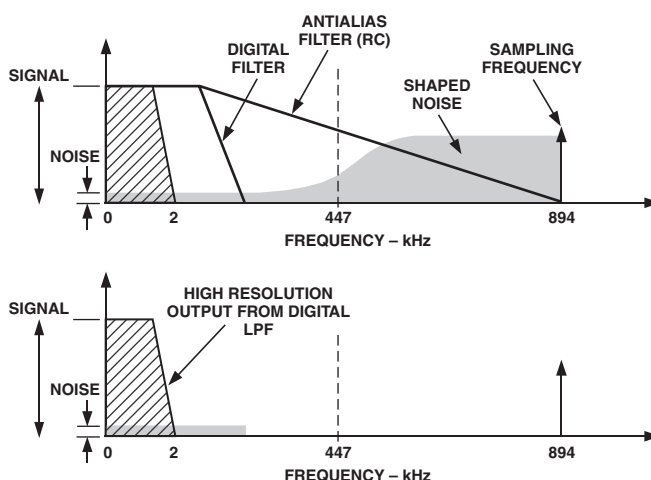
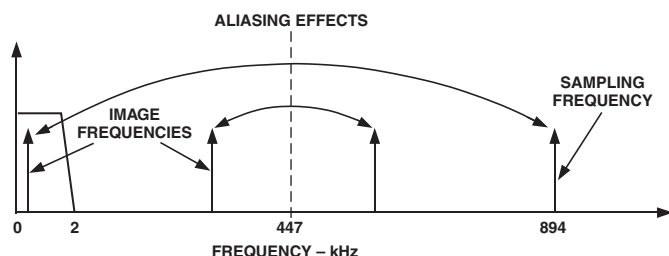

Figure 20. Noise Reduction Due to Oversampling and Noise Shaping in the Analog Modulator
Figure 21. ADC and Signal Processing in Channel 1
than the bandwidth of interest. For example, the sampling rate in the ADE7759 is CLKIN/4 (894 kHz) and the band of interest is 40 Hz to 2 kHz. Oversampling has the effect of spreading the quantization noise (noise due to sampling) over a wider bandwidth. With the noise spread more thinly over a wider bandwidth, the quantization noise in the band of interest is lowered—see Figure 20. However, oversampling alone is not an efficient enough method to improve the signal to noise ratio (SNR) in the band of interest. For example, an oversampling ratio of 4 is required just to increase the SNR by only 6 dB (one bit). To keep the oversampling ratio at a reasonable level, it is possible to shape the quantization noise so that the majority of the noise lies at the higher frequencies. This is what happens in the sigma-delta modulator: the noise is shaped by the integrator, which has a high-pass type response for the quantization noise. The result is that most of the noise is at the higher frequencies, where it can be removed by the digital low-pass filter. This noise shaping is also shown in Figure 20.
Figure 20 also shows an analog low-pass filter (RC) on the input to the modulator. This filter is present to prevent aliasing. Aliasing is an artifact of all sampled systems. Basically it means that frequency components in the input signal to the ADC that are higher than half the sampling rate of the ADC will appear in the sampled signal at a frequency below half the sampling rate. Figure 21 illustrates the effect. Frequency components (arrows shown in black) above half the sampling frequency (also known as the Nyquist frequency, i.e., 447 kHz) get imaged or folded back down below 447 kHz (arrows shown in grey). This will happen with all ADCs regardless of the architecture. In the example shown, it can be seen that only frequencies near the sampling frequency (894 kHz) will move into the band of interest for metering, i.e., 40 Hz–2 kHz. This allows us to use a very simple LPF (low-pass filter) to attenuate these high frequencies (near 900 kHz) and to prevent distortion in the band of interest. For a conventional current sensor, a simple RC filter (single pole) with a corner frequency of 10 kHz will produce an attenuation of approximately 40 dBs at 894 kHz—see Figure 20. The 20 dB per decade attenuation is usually sufficient to eliminate the effects of aliasing for conventional current sensor.